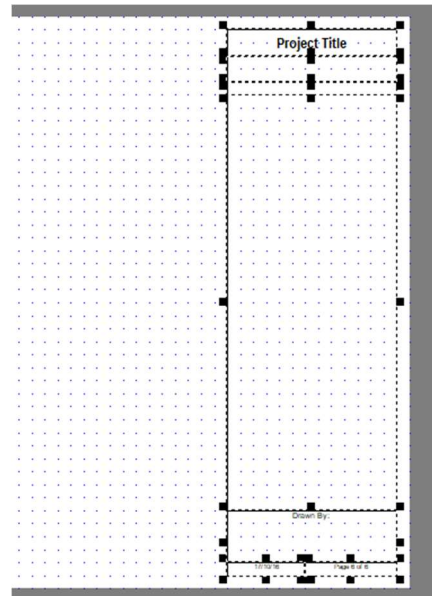

Figure 22-15: Selecting Multiple Sub-Views (Rectangles in this Case) With a Mouse Click and Drag
5. Click and drag from the top right corner to select all the sub-views (rectangles in this case) of the title block as shown in Figure 22-15.